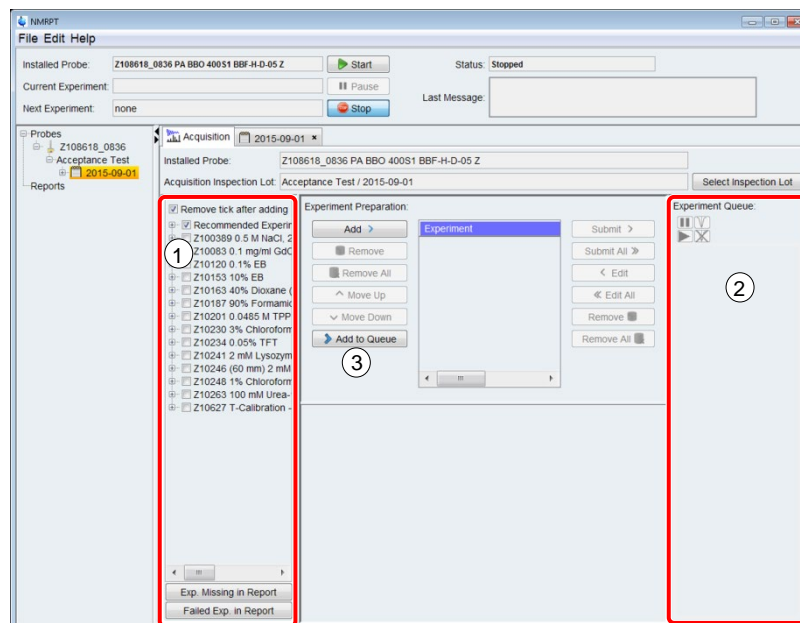

Figure 3-12: Enqueue Recommended Experiment Sequence
14. Click the **Recommended Experiment Sequence** check box (Figure 3-12 (1)) in the **Library**. The recommended set of experiments in recommended measurement order is selected.
15. Click **Add to Queue** (Figure 3-12 (3)) located in **Experiment Preparation** panel to enqueue experiments for measurement. The experiments are then listed into the **Experiment Queue** (Figure 3-12 (2)).